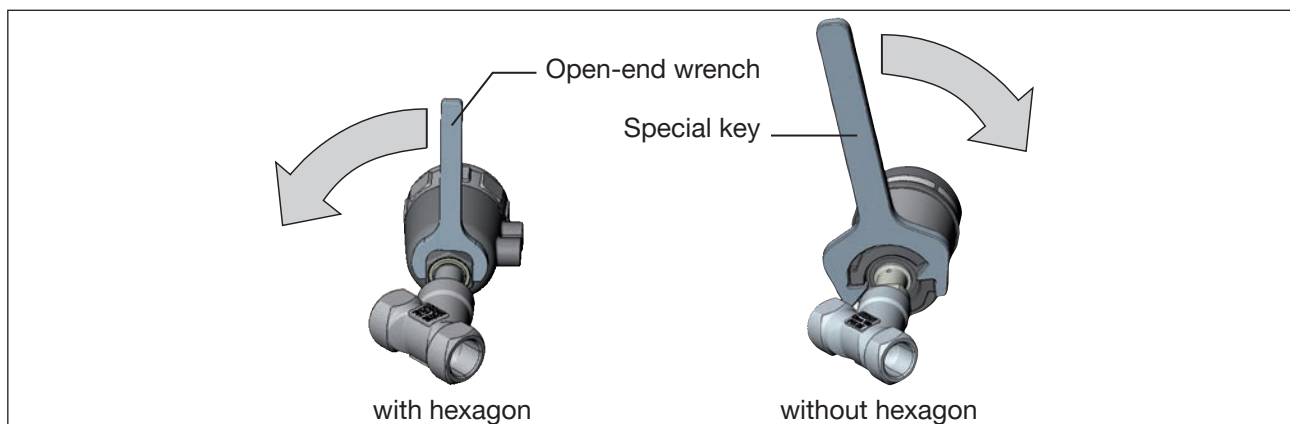

Figure 29: Rotating with special key / open-end wrench
- ▶ Rotate the actuator module in the specified direction only (see “Figure 29”).